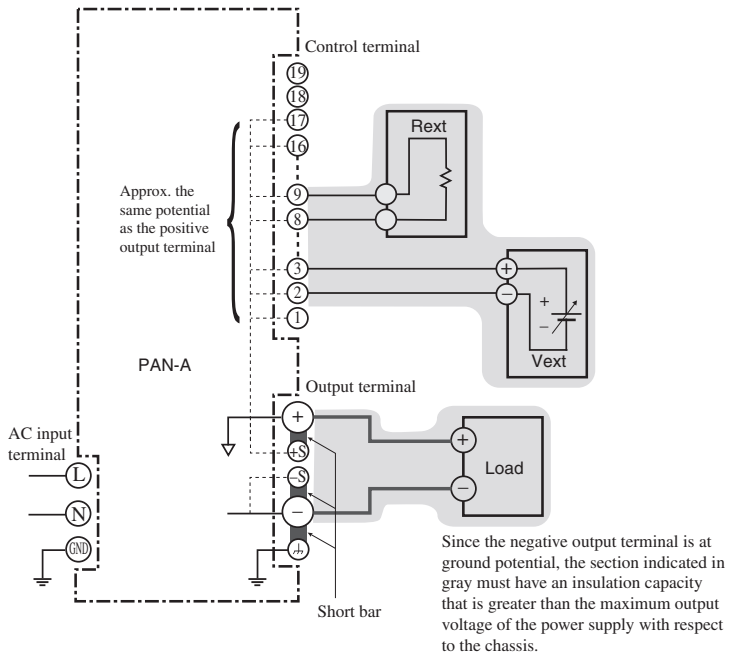

Fig.2-9 When the negative output terminal is grounded
- If the unit is to be remotely controlled through an external voltage source (Vext), do not ground the Vext output (leave it floating). If the Vext output is grounded in the example shown in Fig.2-9, the output is short-circuited (which can cause accidents).
As shown in Fig.2-9, the negative output terminal will be at ground potential. Consequently, the cable and load that are connected to the output terminal (including the sensor terminal) must have an insulation capacity that is greater than the maximum output voltage of the power supply with respect to the chassis.